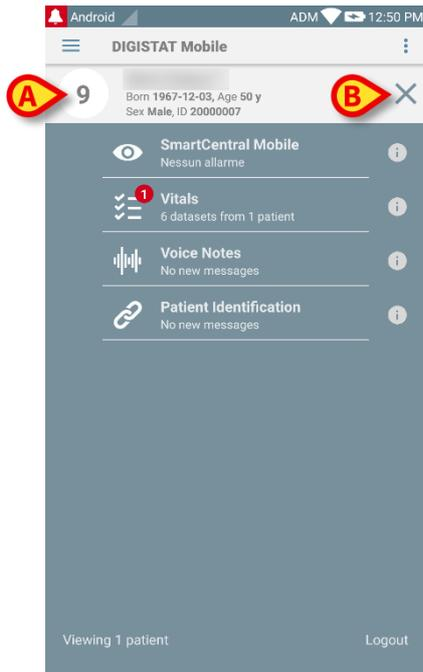

Fig 40
Patient data are on top of the page (Fig 40 **A**). All the data in all the DIGISTAT® Mobile modules are now filtered by patient (i.e. all and only the selected patient alarms/notifications are displayed).
- Touch the cross indicated in Fig 40 **B** to deselect the patient and turn to “All Patients” mode again.